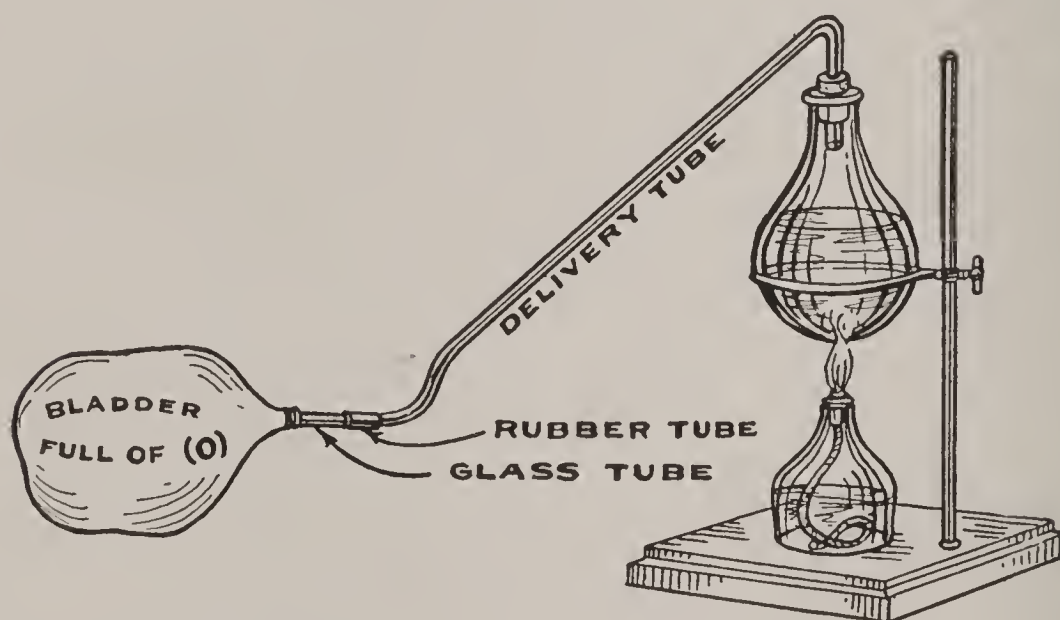

FIG. 46.—Filling the Bladder with Oxygen.
The Strange Action of Oxygen on Phosphorus. Connect the free end of the delivery tube of your oxygen-making apparatus, see Fig. 46, with the tube in a toy rubber balloon, or a bladder, then generate enough oxygen (O) to inflate it,
as shown in Fig. 46, and close up the mouth of the tube with a bit of wax to keep the gas from escaping. This done, put a few pieces of *red phosphorus* (P), each about the size of a buckshot, in a small beaker and set this in a porcelain bowl, or other deep vessel; now fill both of them full of boiling water (H_2O) and remove the wax from the mouth of the tube and place the tube in the beaker, as shown in